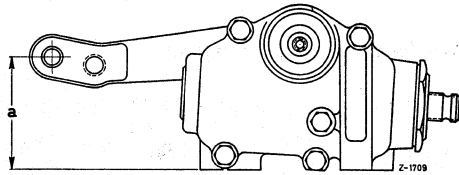

Figure 1
6. Check dimension "a" = 76 ± 3 mm and, if necessary, correct it by shifting the pitman arm (figure 1).